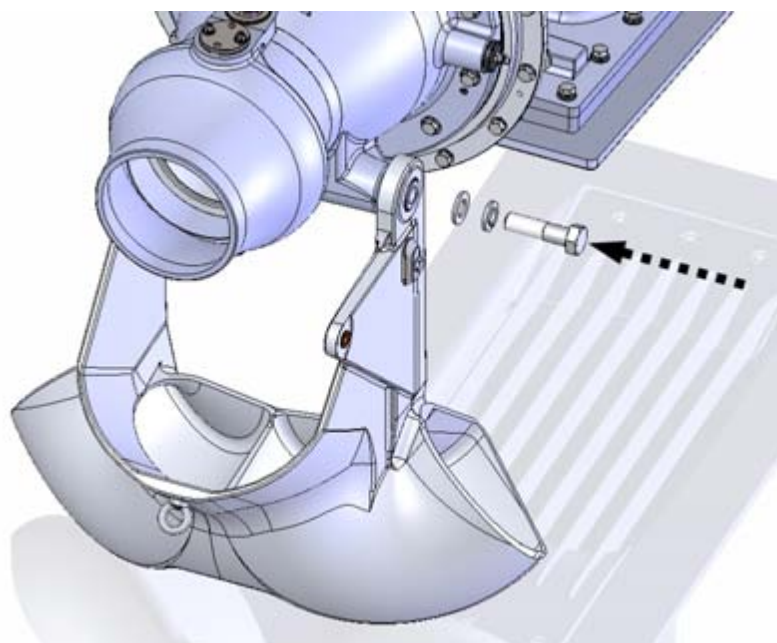

Figure 17. Attaching the reversing deflector
2. Insert locking washers and washers on the bolts, and push the bolts through the holes in the reversing deflector (figure 17).